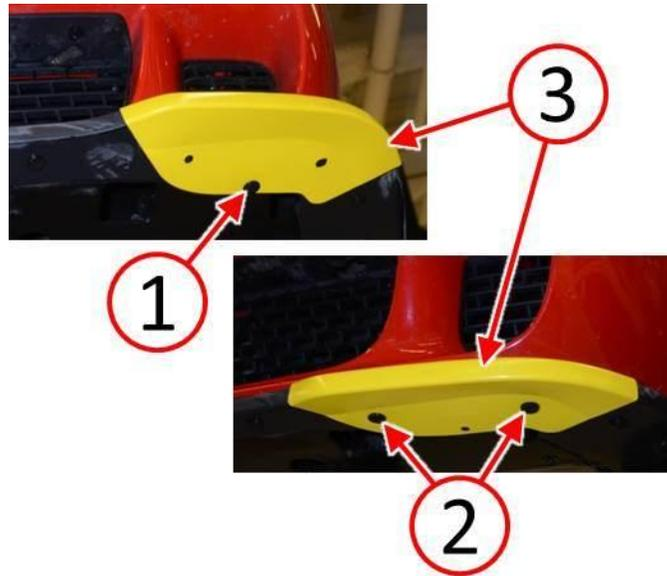

Fig. 2 Remove Front Air Dam Shipping Covers
2. Shipping covers (3) may have one (1) or two (2) push pins retaining each cover, depending on installation (Fig. 2).
NOTE: If the shipping cover (3) is retained by one (1) push pin, the push pin may be discarded and does not require replacement (Fig. 2).
3. If the shipping cover (3) is retained by one (1) push pin as shown in (Fig. 2):
- a. Remove and discard the push pin (1) and the shipping cover (3) from the right and left sides of the front air dam (Fig. 2). Repair process is complete, proceed to Step #5.
NOTE: If the shipping cover (3) is retained by two (2) push pins, the push pins must be replaced with NEW push pins after removal of the shipping cover (Fig. 2).
4. If the shipping cover (3) is retained by two (2) push pins as shown in (Fig. 2):
- a. Remove and discard both push pins (2) and shipping cover (3) from the right and left sides of the front air dam (Fig. 2).